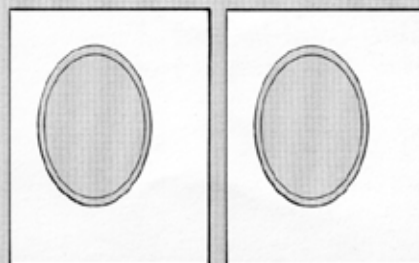

Fig. 3
3. Exchange the centers (inlay piece and fallout, too) and tape in place. (Fig. 3)